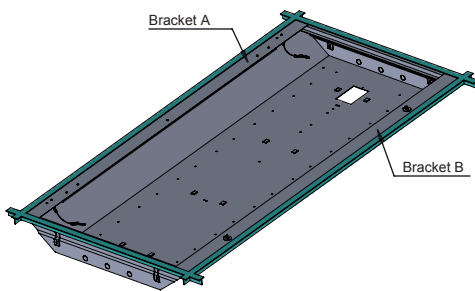

Fig. 1.1
3. Slide universal brackets(A and B) between the fixture and T-Bar.(Fig. 1.1)